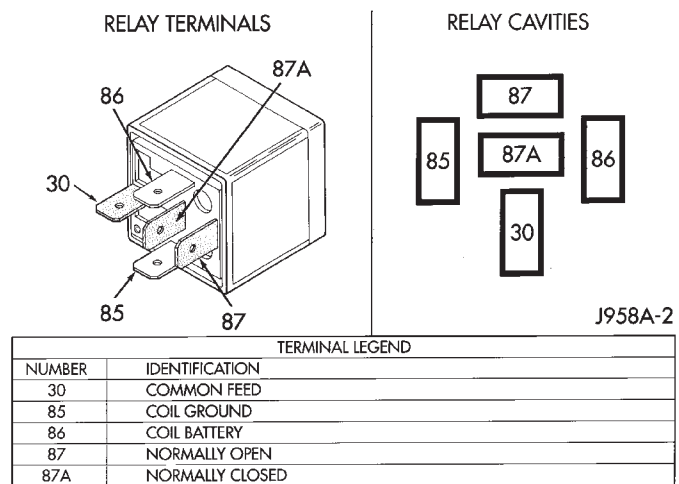

Fig. 11 Type-1 Relay
(13) If equipped with **type-1 relay** (Fig. 11), attach test leads from LCS adapter into PDC relay cavities number 30 and 87. For location of these cavities, refer to numbers stamped to bottom of relay (Fig. 11).